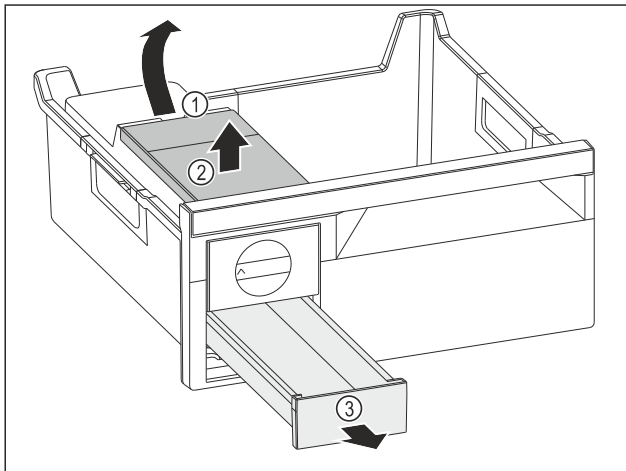

Fig. 78
- ▶ Removing the water tank: Lift the water tank by the recess Fig. 78 (1).
- ▶ Remove the water tank Fig. 78 (2) upwards.
- ▶ Remove the ice cube drawer Fig. 78 (3) to the front.